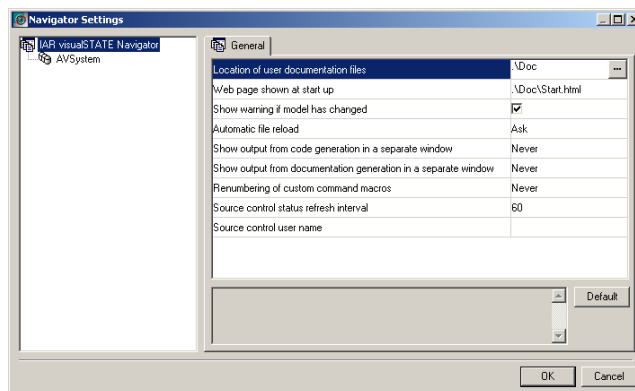

Figure 27: Navigator Settings dialog box
- 2 Click the **Source control status refresh interval** option and type number of seconds in the field to the right. See *Figure 27*, page 39.
- 2 Click the **Source control user name** option and type user name in the field to the right. See *Figure 27*, page 39.